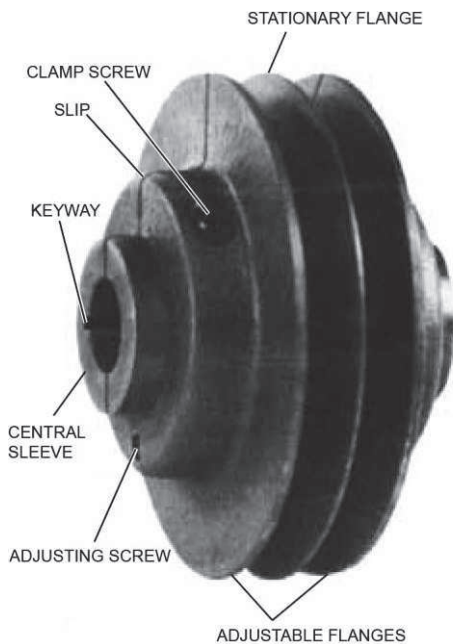

FIGURE 80 - ADJUSTABLE PITCH SHEAVE (JVS)
2. Loosen both clamp screws with an Allen wrench as shown in *Figure 80 on page 80*.